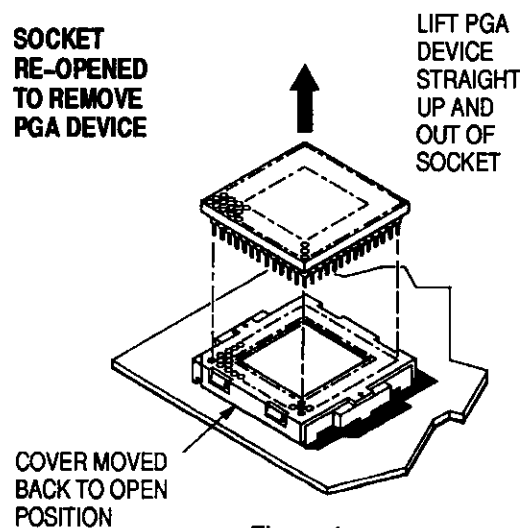

Figure 4
3. Lift PGA device straight up and out of socket as shown in Figure 4.